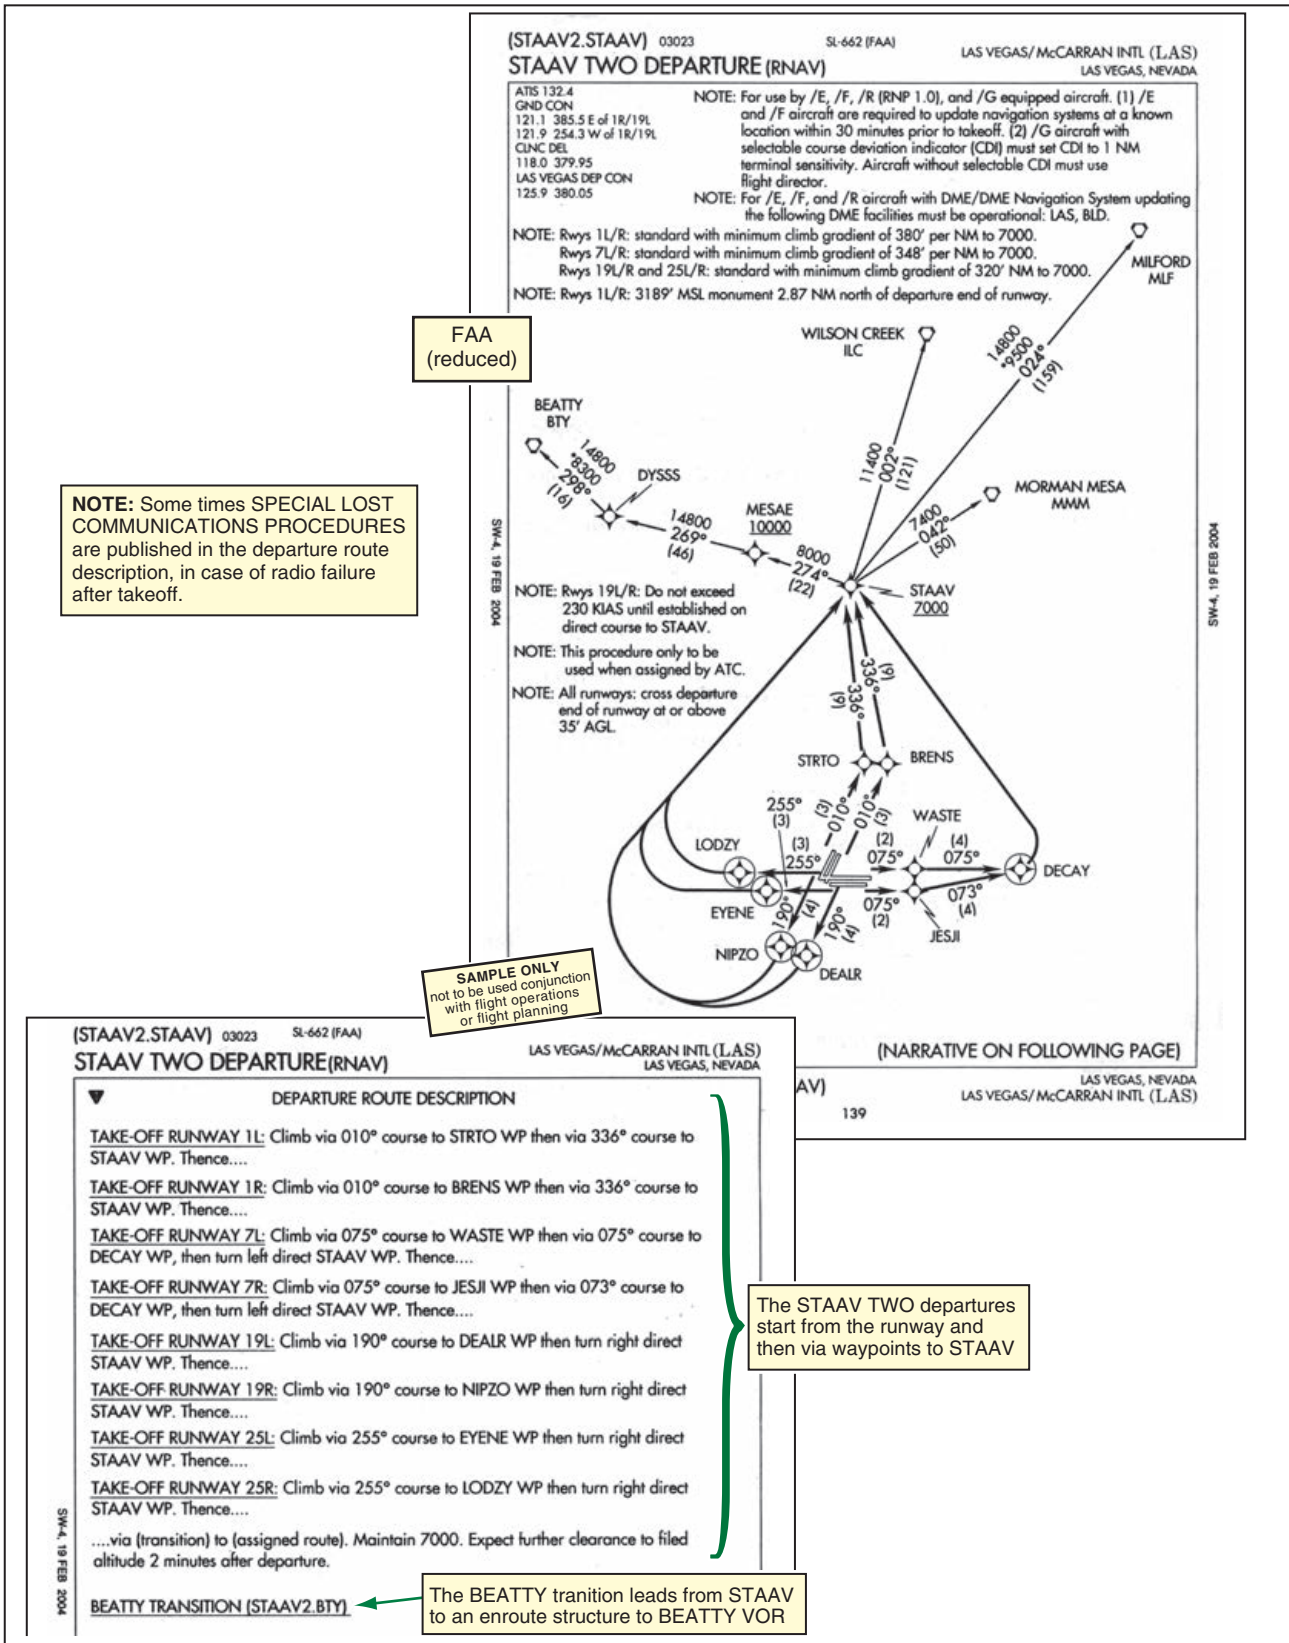

Figure 21-6 The STAAV departures for Las Vegas.
To accept a DP, you must have at least a textual description of it available in the cockpit. An example of a DP, the STAAV-2 DP for Las Vegas, is shown in figure 21-6, on page 493. ATC may issue DPs without a specific pilot request. If you do not wish to accept a DP, then you should advise ATC, preferably by inserting “No DP” in the remarks section of the filed flight plan, otherwise verbally. (The same applies to STARs—Standard Terminal Arrival Routes.) This does not preclude ATC from reading to you the textual form of a DP as your clearance.
- *pilot navigation DPs*, where the pilot is primarily responsible for navigation along the published DP route (as in the Las Vegas case in figure 21-6); and